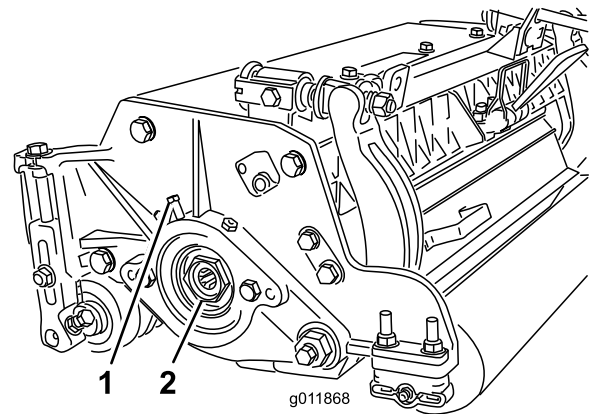

Figure 25
- A. Loosen the external setscrew securing bearing-adjusting nut to the bearing housing located on the left side of the cutting (Figure 25).